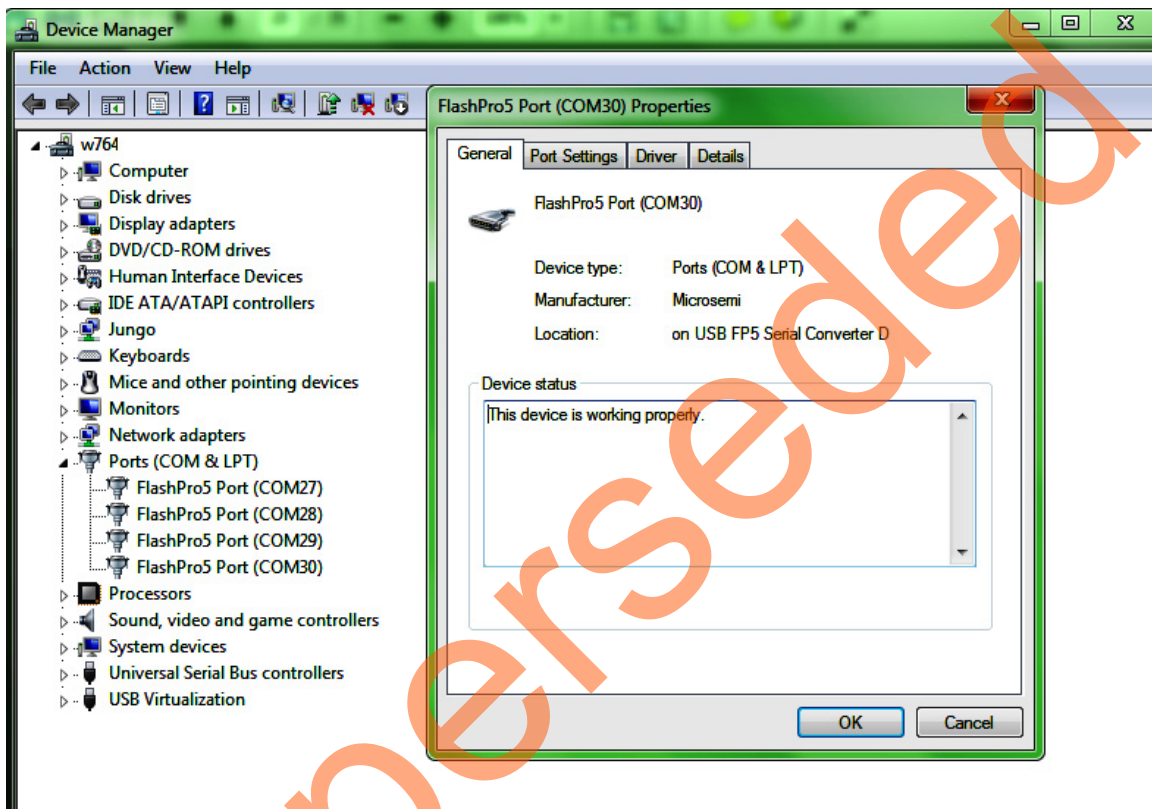

Figure 4 • Device Manager Window
2. Connect the host PC to the J18 connector using the USB Mini-B cable. The USB to UART bridge drivers are automatically detected. Of the four COM ports, select the one with Location as on USB Serial Converter D. Figure 4 shows an example Device Manager window.